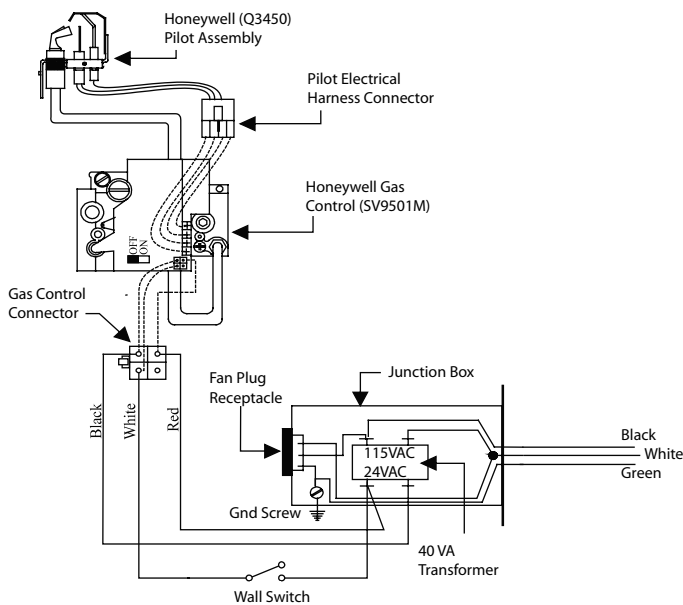

Figure 21. Wiring for the M38DV-PFC-I with Honeywell gas control and pilot.
**Note:** M40DV-PFC-I (electronic ignition) or M40DV-PFC-MH (mobile home) models do not feature hi/lo adjustment. For electronic ignition (HSI) models see figure 21, for mobile home approved models see Appendix B.